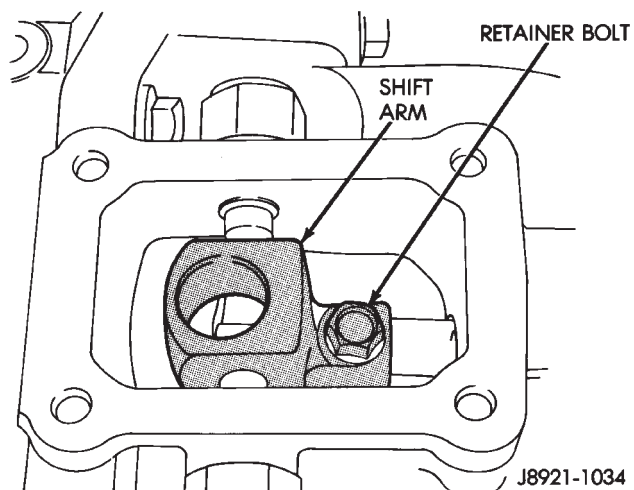

Fig. 22 Shift Arm Retainer Bolt Removal
- (10) Remove shift arm retainer bolt (Fig. 22).